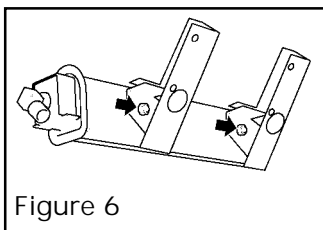

Figure 6
5. Detach the burner supports from the burner by removing two nuts. See figure 6.